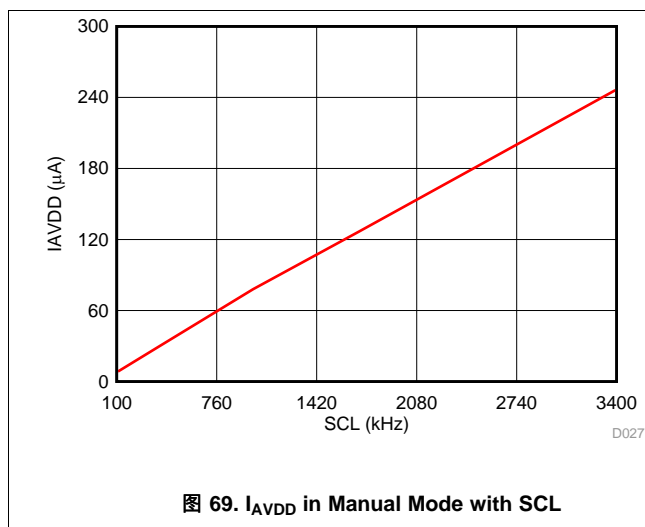
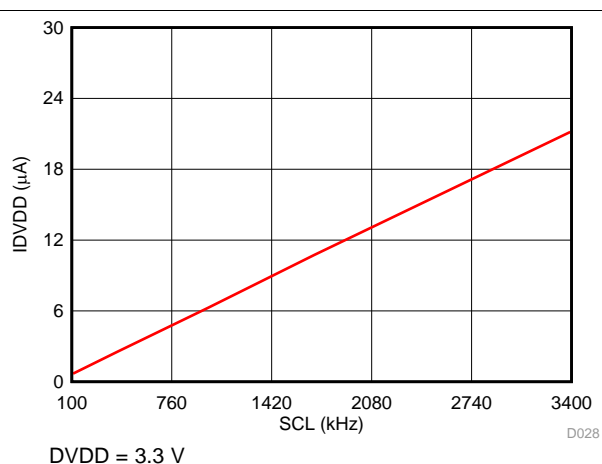

图 69. I_{AVDD} in Manual Mode with SCL
图 70. I_{DVDD} in Manual Mode with SCL
- In Manual Mode, run the device at the optimum sampling speed. Power consumption scales with Sampling Speed. In Manual Mode, the sampling speed is dependent on time period (or frequency) of SCL (公式 7). 图 69 and 图 70 illustrate scaling of I_{AVDD} and I_{DVDD} with SCL in Manual Mode.